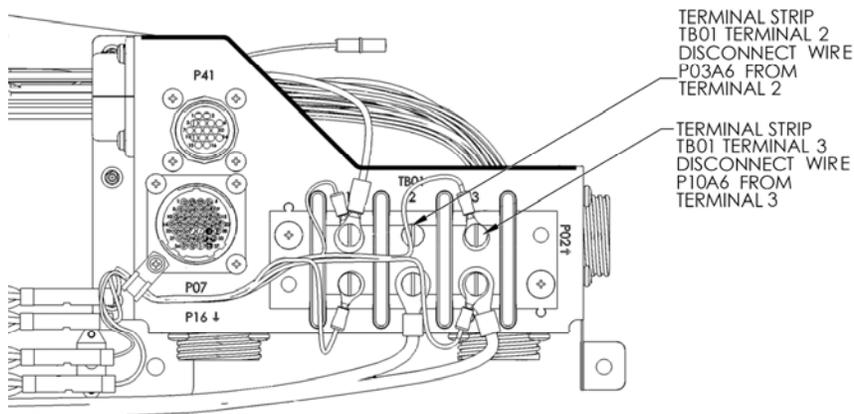

Figure 77-9 Right Side the Power Distribution Assembly Showing Location for the Connection for Wire P10A6
8. Disconnect wire P03B6 from terminal 2 of TB01 on the power distribution harness. See Figure 77-9 for location of the terminals on TB01.